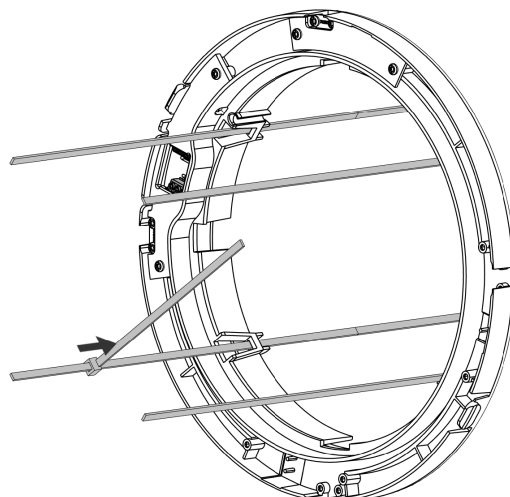

Figure 21 - One loose strip is connected to each of the strips
2. Pull one of the included loose strips (2) on the end of each of the mounting strips, see Figure 21.